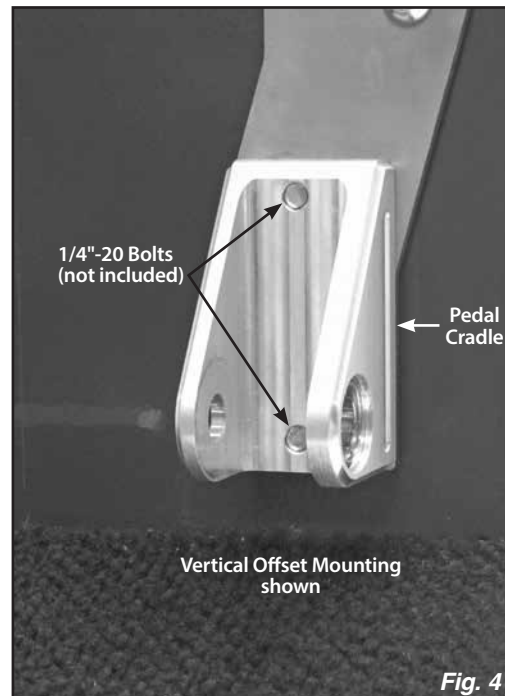

Fig. 4
Step 8: Position the pedal cradle onto the firewall and install two 1/4"-20 bolts (not included) from the engine compartment through the firewall and into the pedal cradle. **Fig. 4** Make sure the bolts are not long enough to interfere with the movement of the upper or lower pedal arms.